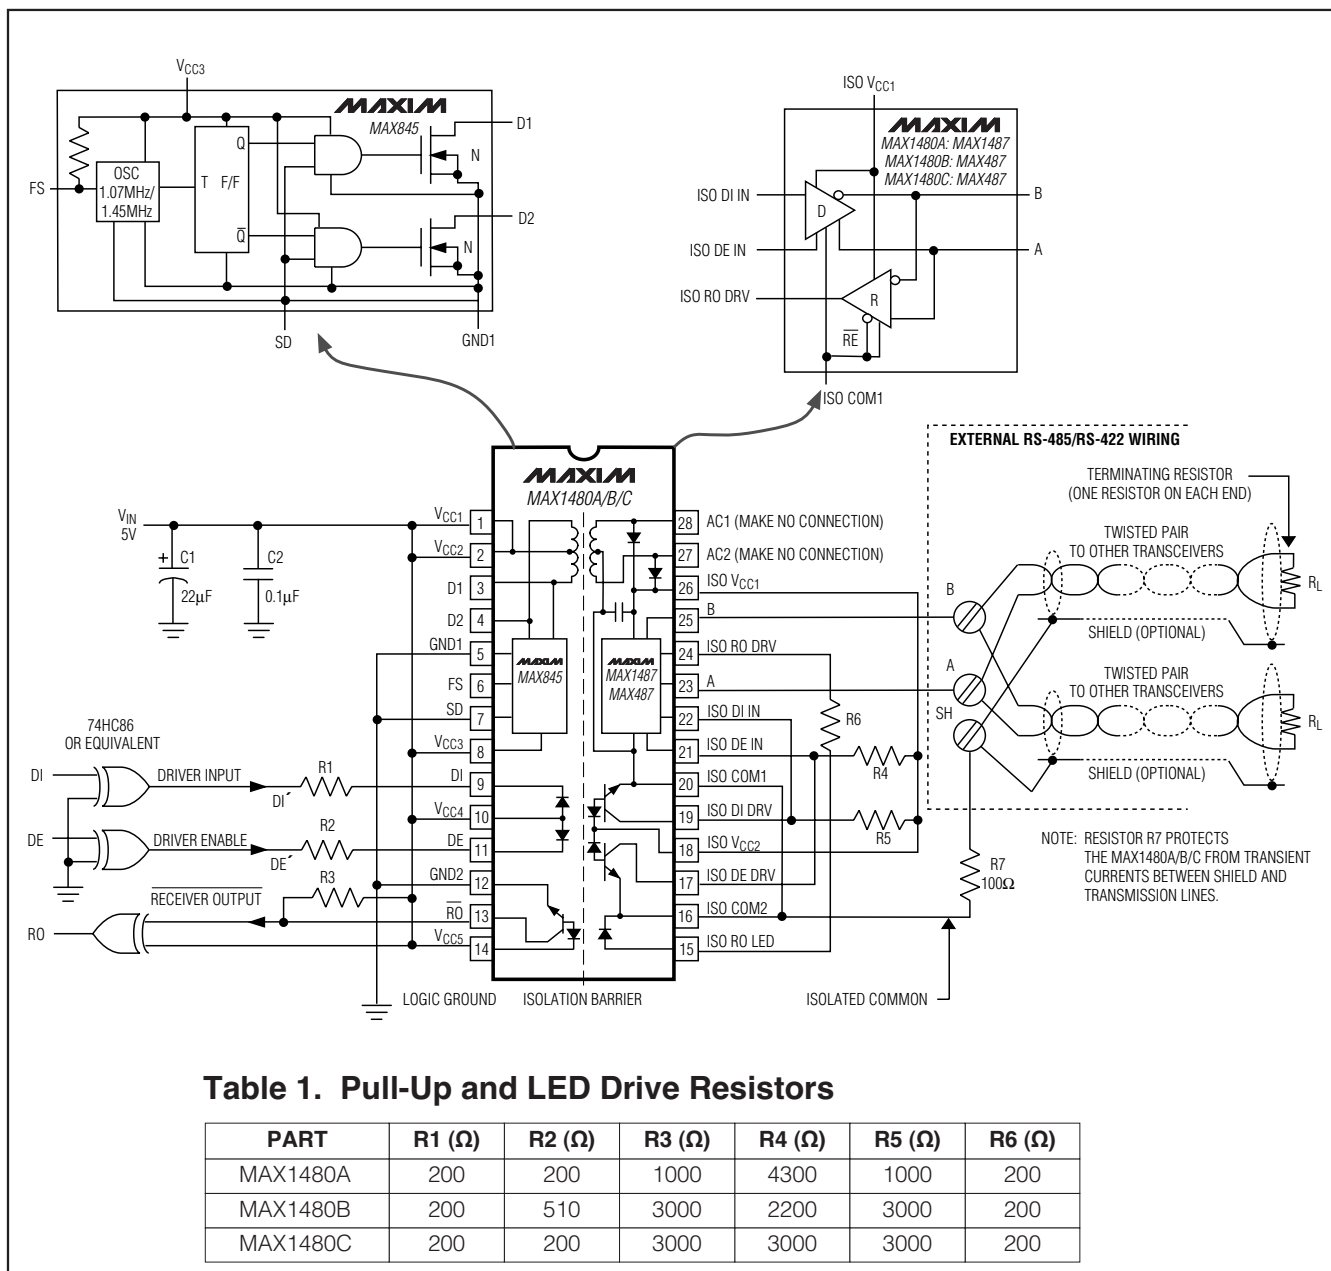
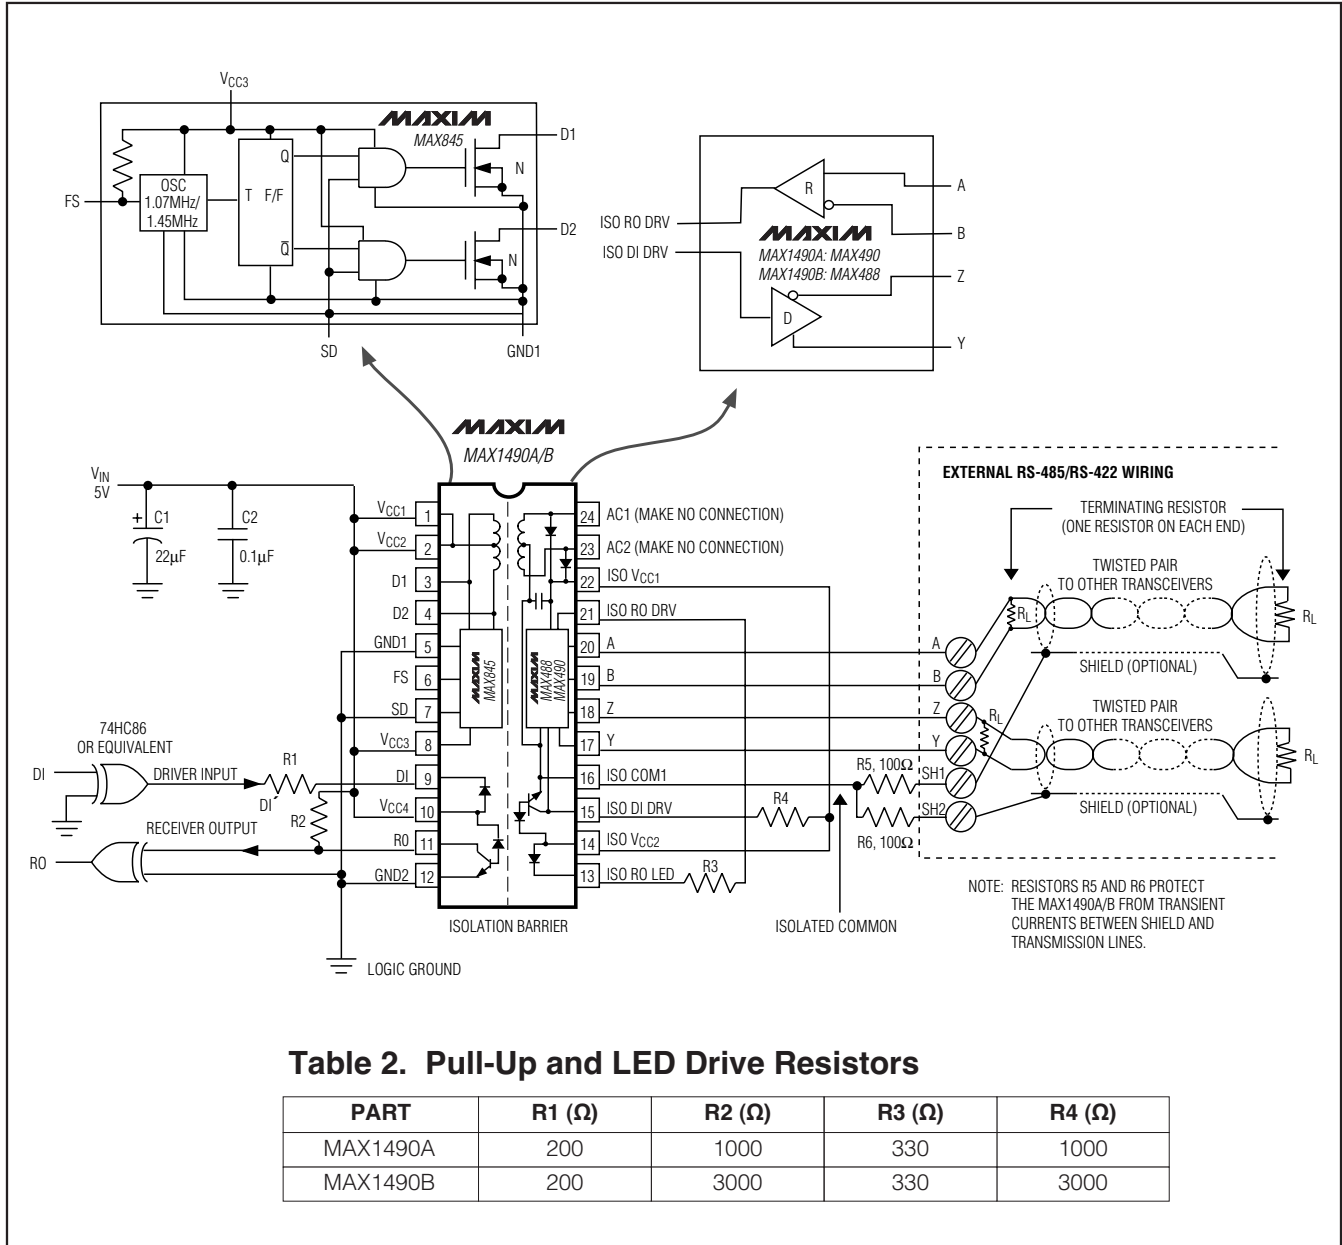

Figure 1. MAX1480A/MAX1480B/MAX1480C Detailed Block Diagram and Typical Application Circuit
Figure 2. MAX1490A/MAX1490B Detailed Block Diagram and Typical Application Circuit
**Note:** For DE+ and DI+ pin descriptions, see *Detailed Block Diagram and Typical Application Circuit* (Figure 1 for MAX1480A/B/C, Figure 2 for MAX1490A/B).
The MAX1480A/MAX1480B/MAX1480C/MAX1490A/MAX1490B are complete, electrically isolated, RS-485/RS-422 data-communications interface solutions. Transceivers, optocouplers, a power driver, and a transformer in one standard 28-pin DIP package (24-pin for the MAX1490A/B) provide a complete interface. Signals and power are internally transported across the isolation barrier (Figures 1, 2). Power is transferred from the logic side (nonisolated side) to the isolated side of the barrier through a center-tapped transformer. Signals cross the barrier through high-speed optocouplers. A single +5V supply on the logic side powers both sides of the interface. The MAX1480A/B/C offer half-duplex communications while the MAX1490A/B feature full-duplex communication. The functional input/output relationships are shown in Tables 3–6.
\* For DE' and DI' pin descriptions, see Detailed Block Diagram and Typical Application Circuit (Figure 1 for MAX1480A/B/C, Figure 2 for MAX1490A/B).
The MAX1480A/MAX1480B/MAX1480C/MAX1490A/MAX1490B are specified and characterized using the resistor values shown in Table 1 of Figure 1 and Table 2 of Figure 2. Altering the recommended values can degrade performance.
The isolated common may be completely floating with respect to the logic ground and the effective network ground. The receiver input resistors will cause the isolated common voltage to go to the mean voltage of the receiver inputs. If using shielded cable, connect the isolated common to the shield through a 100Ω resistor. In the case of the MAX1490, each shield should have its own 100Ω resistor (Figures 1, 2, 13, and 14).